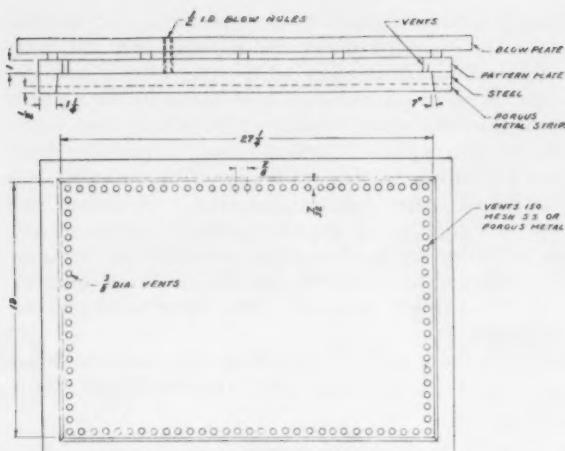

Fig. 8—Drawing of method used for venting the perimeter and border strip of pattern plate.
**Venting.** A new venting practice was necessary to secure a firmly blown D process core. The first principle to accept is that the core must be blown quickly—like a flash of lightning. Pattern wear is greatly reduced and a hard core is obtained. To accomplish this, one must follow an over-venting practice. The first step is to vent the pattern plate perimeter and pattern plate border, as illustrated in Fig. 8. Around the outer edge of the pattern plate and through the border plate, drill holes for vents  $\frac{7}{8}$  in. apart. Use D process vents  $\frac{3}{8}$  in. in diameter and make certain that they are smooth on top and flush with plate surface to avoid sand sticking.